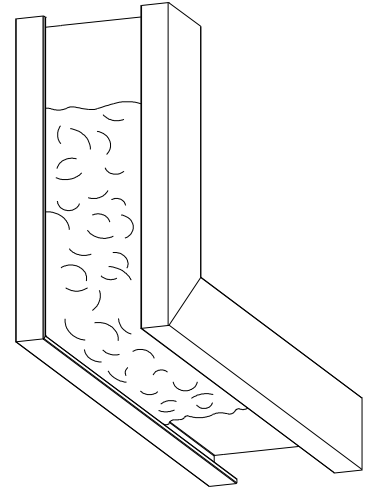

Figure 7:
- Seal all frame and vent joints completely with compatible sealant. Apply a heavy bead of sealant to the interior side where the frame jamb and sill join. Sealant must cover the entire joint and extend 1-1/2" up the jamb and along the sill (Figure 7).
- Seal all frame and vent joints completely with compatible sealant. Apply a heavy bead of sealant to the interior side where the frame jamb and sill join. Sealant must cover the entire joint (from the flange to the inside leg) and extend 1-1/2" up the jamb and along the sill (Figure 7).